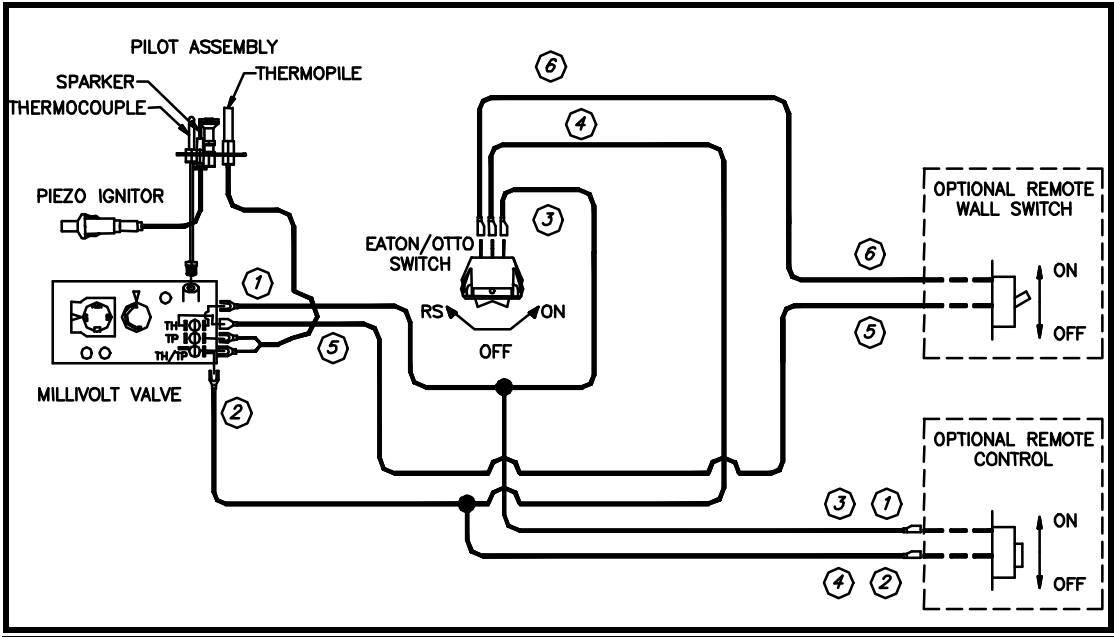

Figure 20: Wiring Diagram for Standing Pilot - Millivolt System
A remote wall switch and fifteen (15) feet of 18 Ga. wire are provided as standard with this fireplace. The wire has been pre-wired at the valve and routed through the right side, outer shell. (Access is also available on the left side through the square hole on that side). Position the wall switch inside of a junction box (not provided) at the desired location on the wall. Refer to Figure 20: Wiring Diagram for Standing Pilot - Millivolt System. Do not extend beyond the wall switch wire length provided.
5. Connect the connectors to the two 1/4” male terminals located near the gas valve as shown in Figure 20: Wiring Diagram for Standing Pilot - Millivolt System.
The millivolt (thermopile) control is a self-powered combustion gas control. Refer to Figure 20: Wiring Diagram for Standing Pilot - Millivolt System. The millivolt system and individual components may be checked with a millivolt meter having 1-1000 mV range. Conduct each check listed below by connecting the meter test leads to the terminals indicated. Refer to **OPERATING INSTRUCTIONS** for safety and lighting instructions.